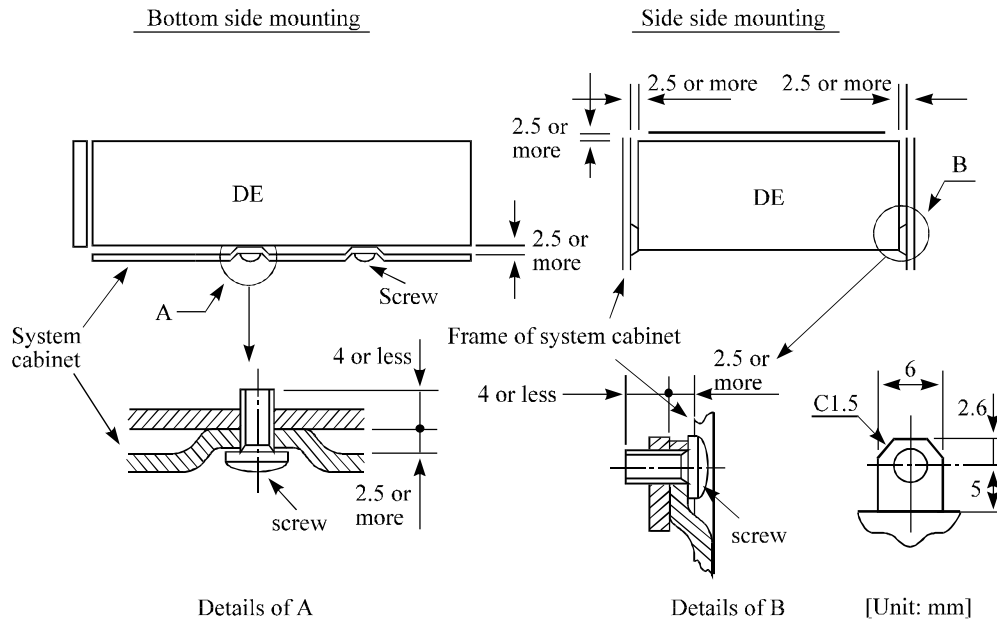

Figure 4.6 Mounting frame structure
- As shown in Figure 4.6, the inward projection of the screw from the IDD frame wall at the corner must be 4 mm or less.